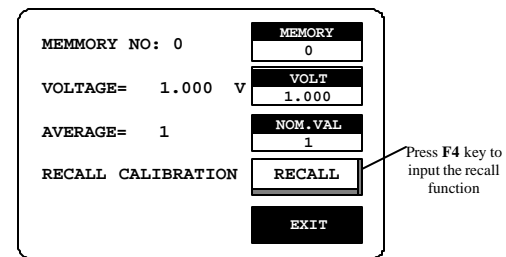

Figure 7-3
- Press **F4** key to select "RECALL CALIBRATION" function. (Figure 7-3)